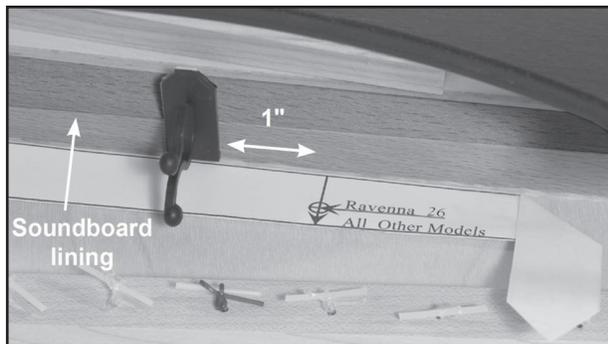

Figure 4 – Marking Template pointing at high F
4. Place the template on the soundboard with the edge against the soundboard lining on the left side of the harp. The lining is the strip of wood that covers the joint between the soundboard and the side of the harp. Position the template so the folded end points directly at the highest F (blue) string (see figure 4). Tape the template in place.
1. For Dusty Strings FH26, Allegro or Ravenna 26: Mark an 'X' on the soundboard lining approximately 1" toward the base of the harp from each element location (see figure 4, previous page). This location is approximate, and can be adjusted as needed.